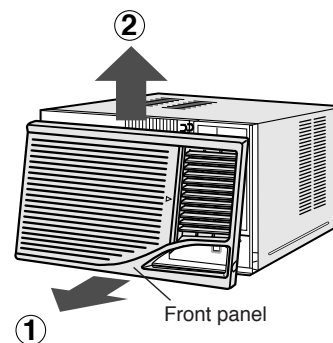

Fig.3
- (2) Close the grille firmly, and remove the front panel by pulling the front panel at the lower corners towards you for about 3 cm (1" ). Then lift it up and pull it towards you. (Fig.3)